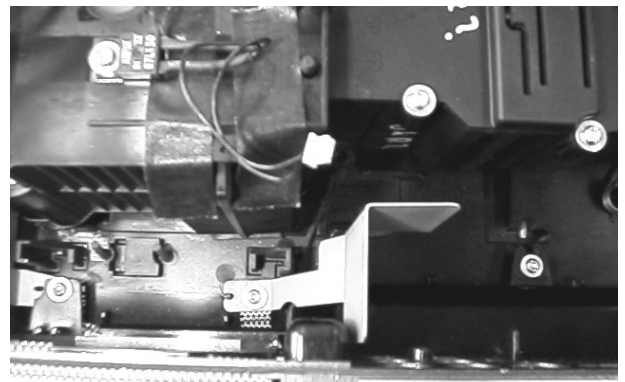

Fig. 18
4. Mounting position of earth bracket. (See Fig. 18)